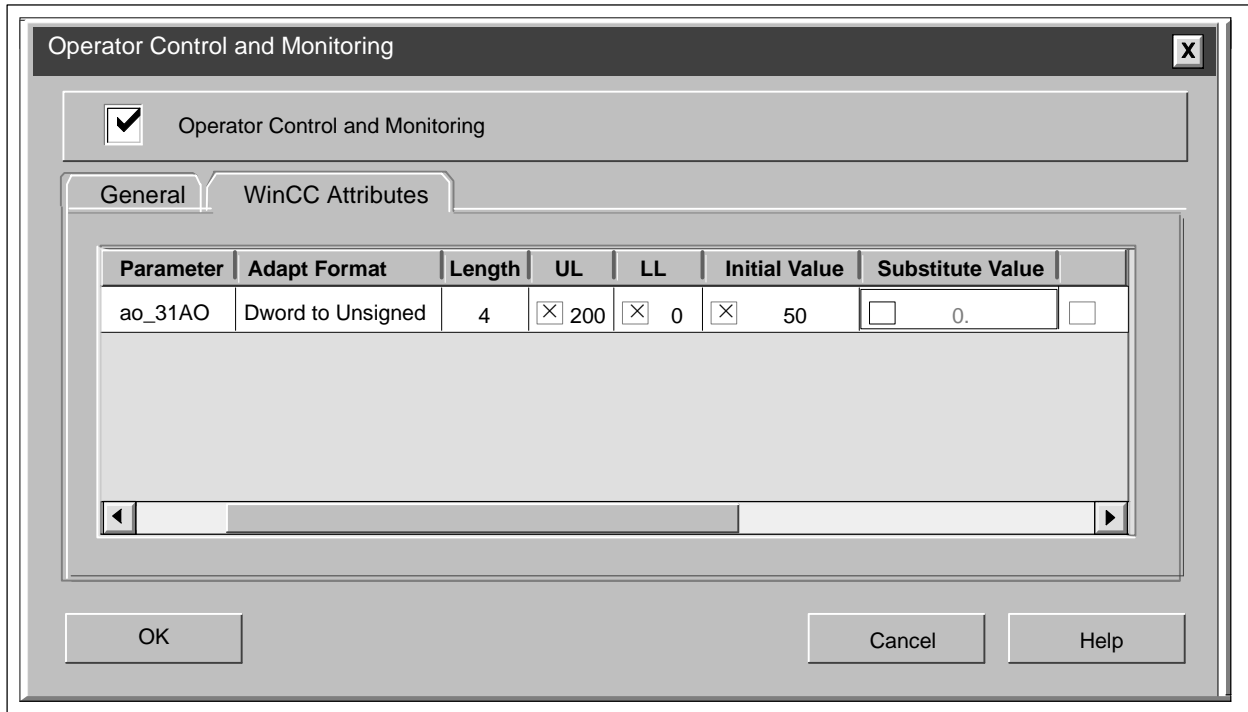

Figure 2-9 Assigning Initial Value, High and Low Ranges in the WinCC Attributes Folder
6. Click the **WinCC Attributes** tab. The WinCC Attributes window appears. See Figure 2-9 on page 2-29.
You configure the initial value, high range, and low range of a tag in the WinCC Attributes folder (Figure 2-9).